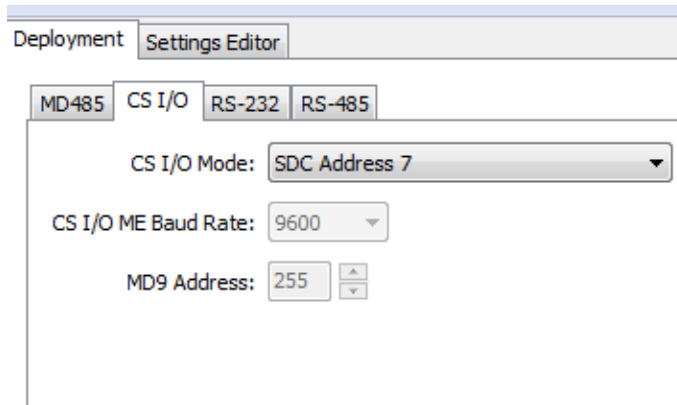

FIGURE 8-9. MD485 CS I/O tab
5. Click the **CS I/O** tab. Set the mode based on the type of datalogger being used. Below shows the configuration for a CR1000 with SDC7 used for the address (FIGURE 8-9).